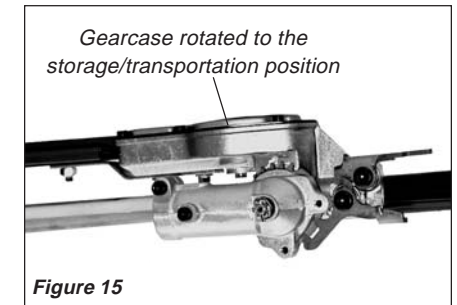

Figure 15
2. Using the procedures described on the previous page, rotate the cutter assembly so it is parallel to the tube. Make sure the latch lock and the latch release return securely to a locking position. See Figure 15.